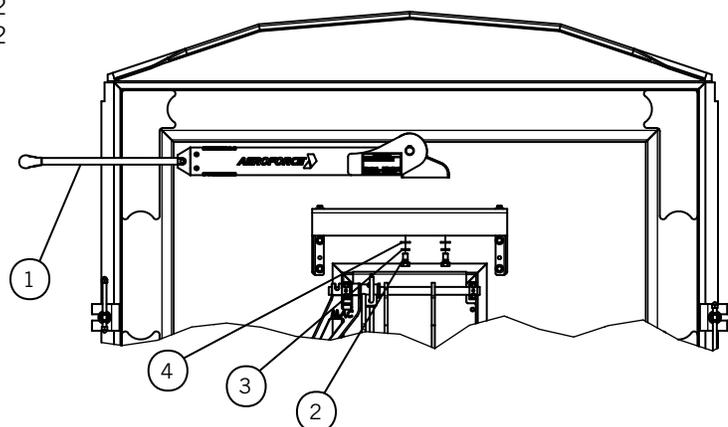

Figure 31-2
- 2) **Figure 31-2.** Using the supplied $3/4$ " bolts, washers and nuts, install ForceLink arm assembly onto the mounting bracket.